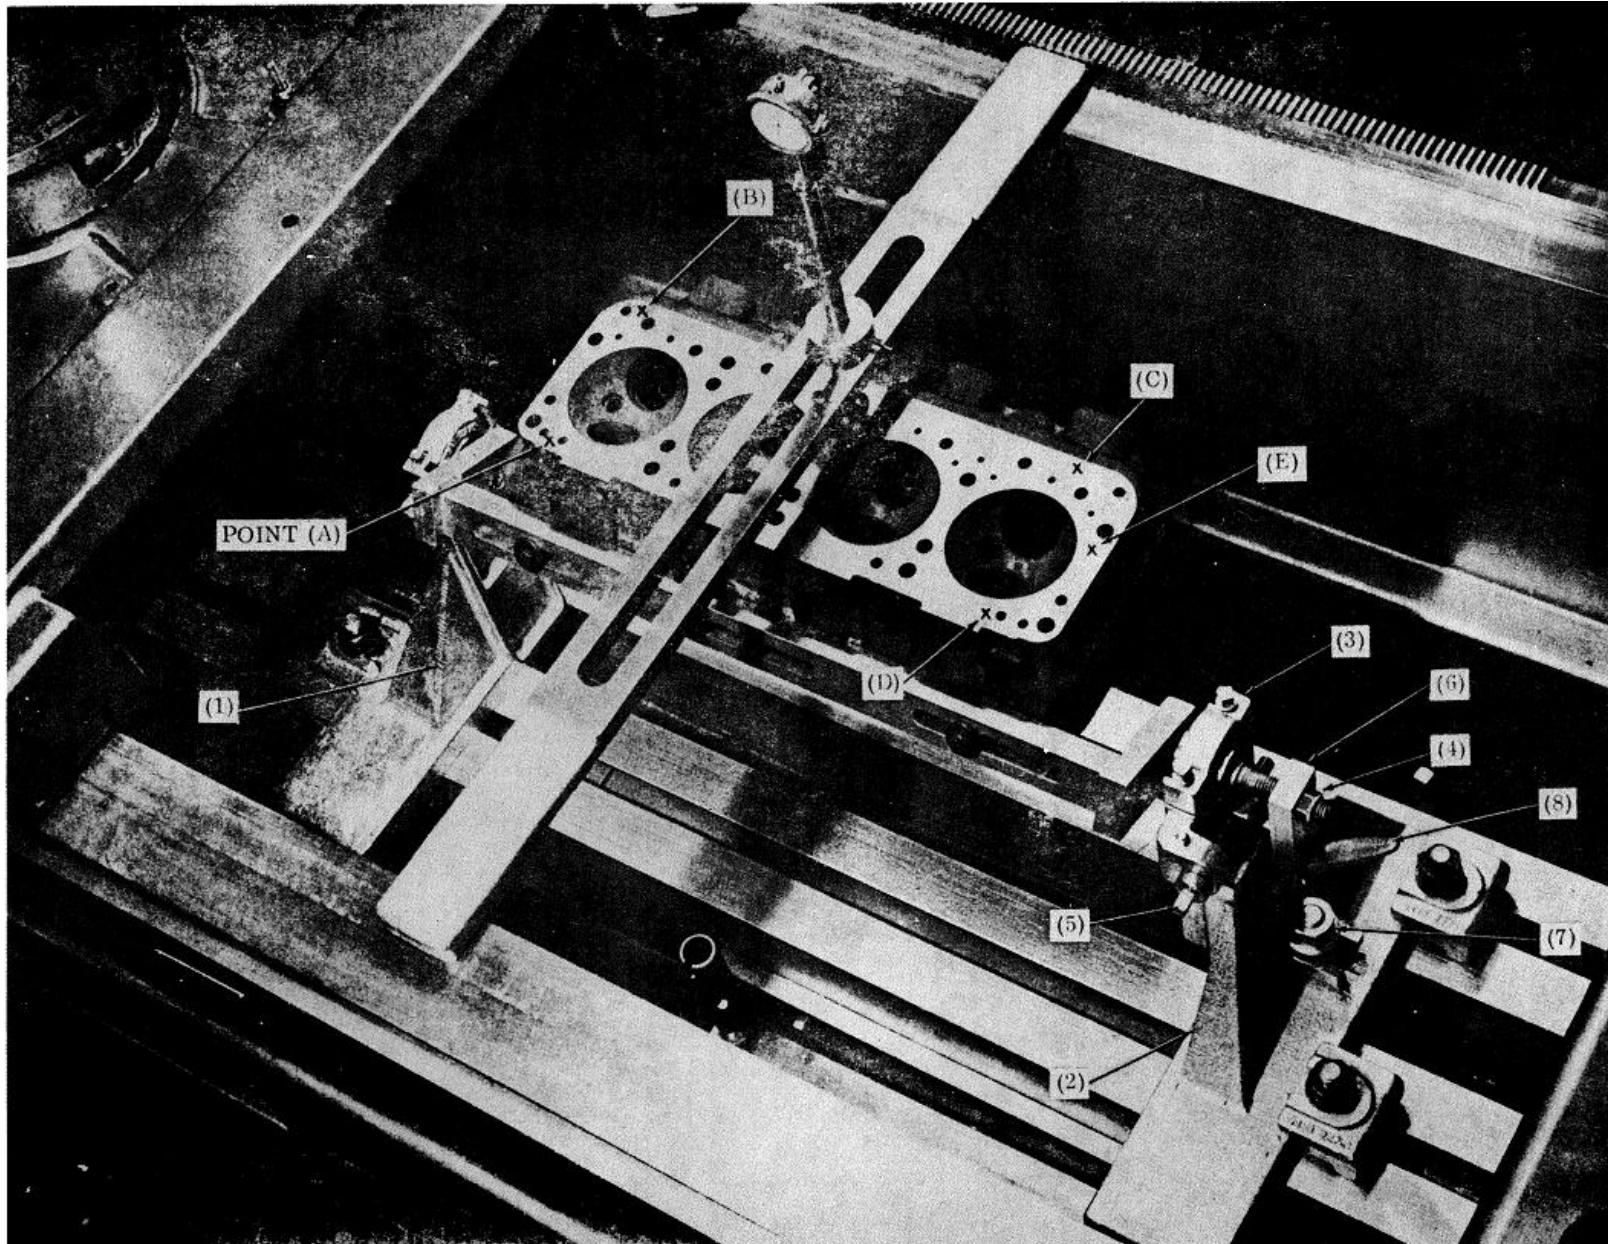

Figure 3
5. Place indicator over left front of head and set to zero. (Point "A" Figure 3).
6. Slide indicator to rear of head and note reading (Point "B" Figure 3). Adjust side adjusting screws #5 half the difference of readings obtained. Recheck and set indicator to zero.
7. Slide straddle bar to right end of head. Place indicator at center of surface to be ground (Point "E" Figure 3). Adjust nut #7 to obtain zero reading.